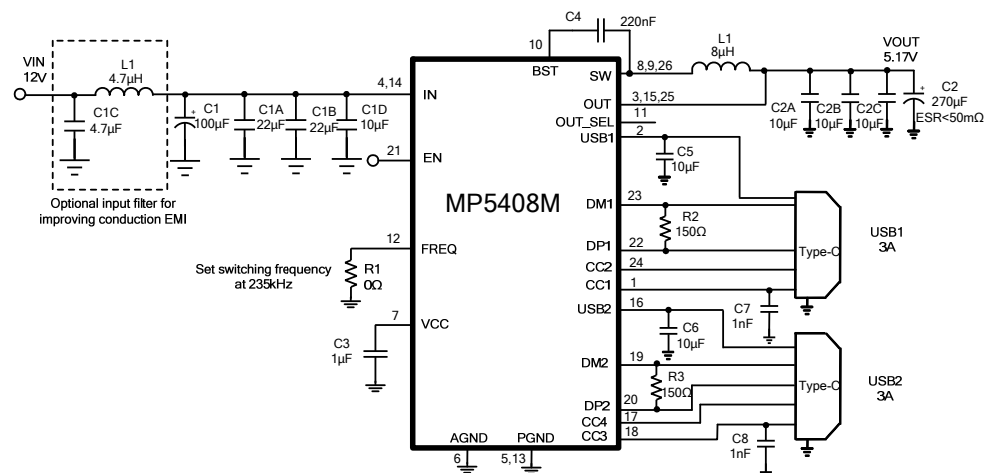

Figure 13: Dual USB Type-C 5V/3A DFP Ports ⁽¹¹⁾
- 10) The recommended layout is based on the Typical Application Circuits in Figure 13 through Figure 15.